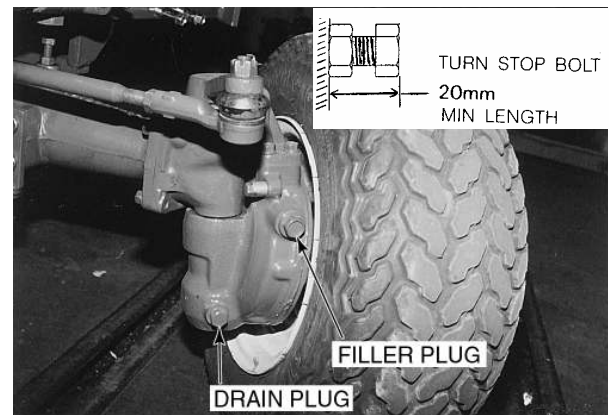

Figure 83 - Final Reduction Gear Case Filler and Drain Plugs. And Turn Stop Bolt
1. With the oil at normal operating temperature, drain the oil by removing the front axle differential, Figure 82, and final reduction gear case drain plugs, Figure 83. Reinstall the plugs after the oil has drained. Discard the oil.
2. Remove the filler plugs at each final reduction gear case, Figure 83, and fill with new oil as specified on page 35, and install the filler plug.
**NOTE:** To ensure correct steering operation the stop bolt, Figure 83, should protrude a minimum of 20mm from the casing.